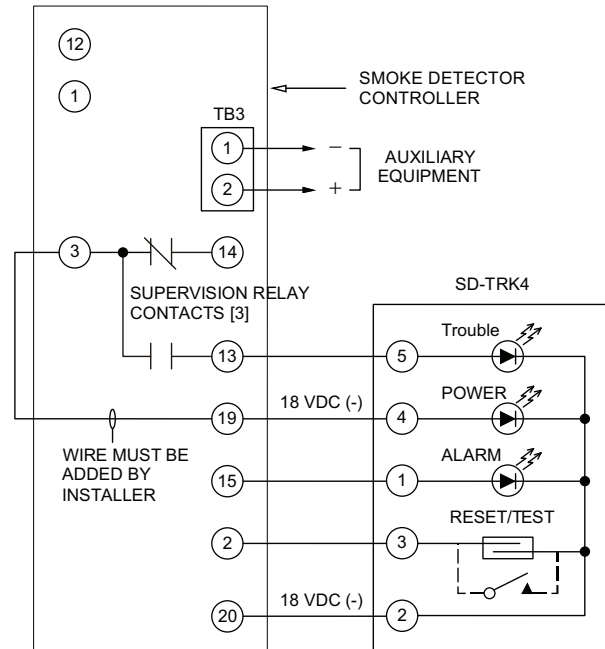

Fig. 45 — Remote Test/Reset Station Connections
The test/reset station dirty sensor test checks the test/reset station's ability to initiate a sensor dirty test and indicate the results. It must be wired to the controller as shown in Fig. 45 and configured to operate the controller's supervision relay. For more information, see "Dirty Sensor Test" on page 25.
1. Verify that the remote test/station is wired as shown in Fig. 45. Repair or replace loose or missing wiring.